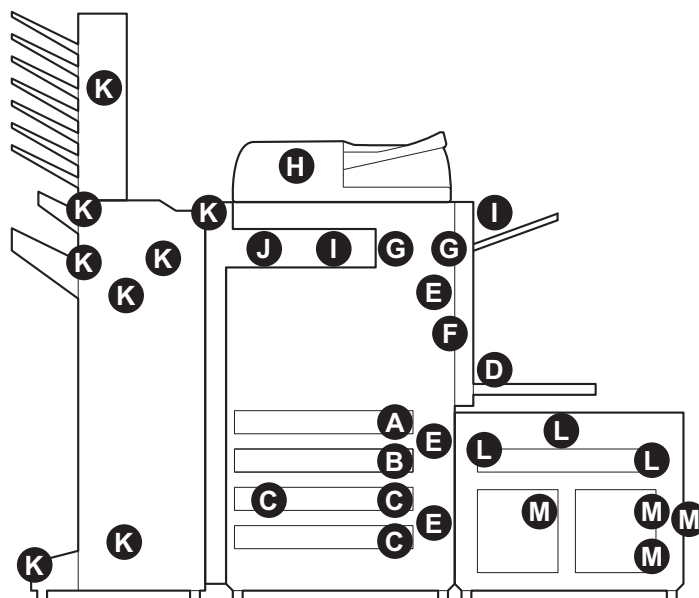

Figure 1-4-1 Paper misfeed indication
*. Refer to figure 1-4-1 for paper misfeed indication (see page 1-4-1).
*: Refer to figure 1-4-1 for paper misfeed indication (see page 1-4-1).